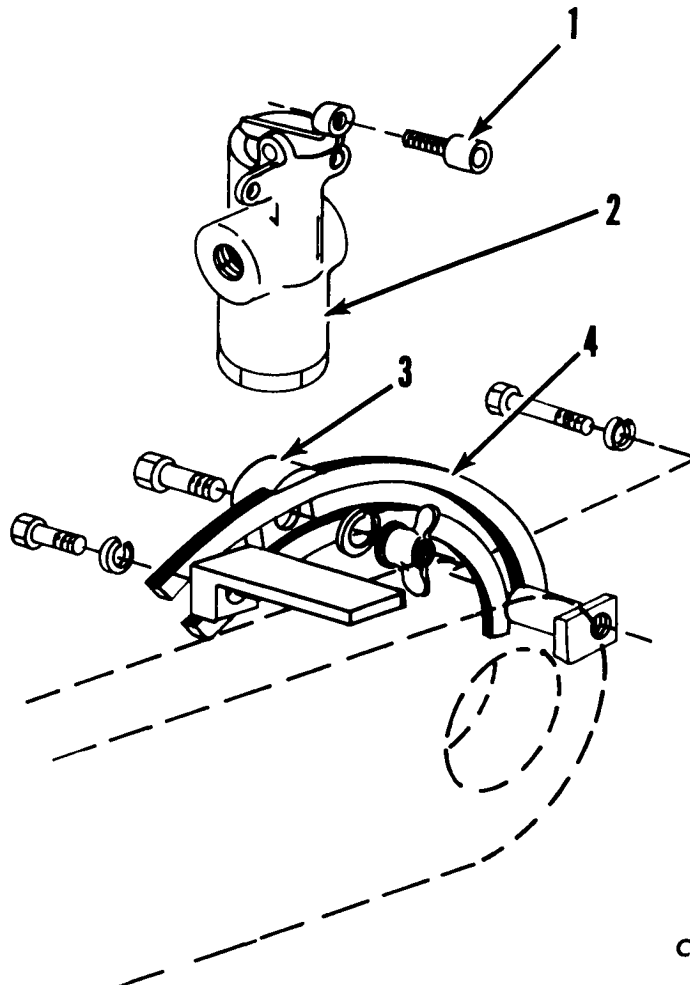

Figure 1-13
levers. A cam roller (1, Fig. 1-13) is mounted on the valve lever, and rides on the cam segment (4) which is permanently mounted on the boom arm.